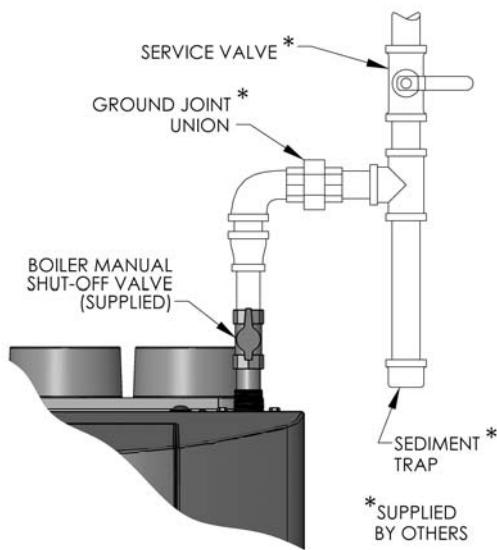

Figure 5.1: Gas Supply Pipe and Shut-off
- As an alternative, use Table 5.1 to determine the required gas flow rate which uses typical heating values for natural gas and liquefied petroleum (LP) gas.
- Install a sediment trap as shown in Figure 5.1. Be sure to allow clearance from the floor or other horizontal surface for removal of the pipe cap.
4. Install a service valve as shown in Figure 5.1 to allow the gas supply to be interrupted for service.
7. Figure 5.1 shows the gas shutoff valve for the *PUREFIRE®* boiler. This valve is to be used in addition to the gas service valve shown upstream of the sediment trap.